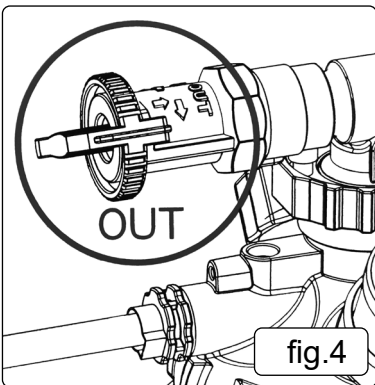

fig.4
4.1.4. Switch the IN & OUT knob to "OUT" position. (fig.4)